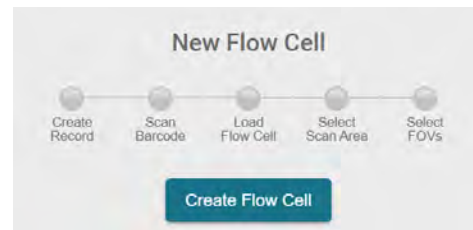

Figure 14: Select Create Flow Cell
1. From the Flow Cell Configuration screen, **select Create Flow Cell** (see Figure 14).